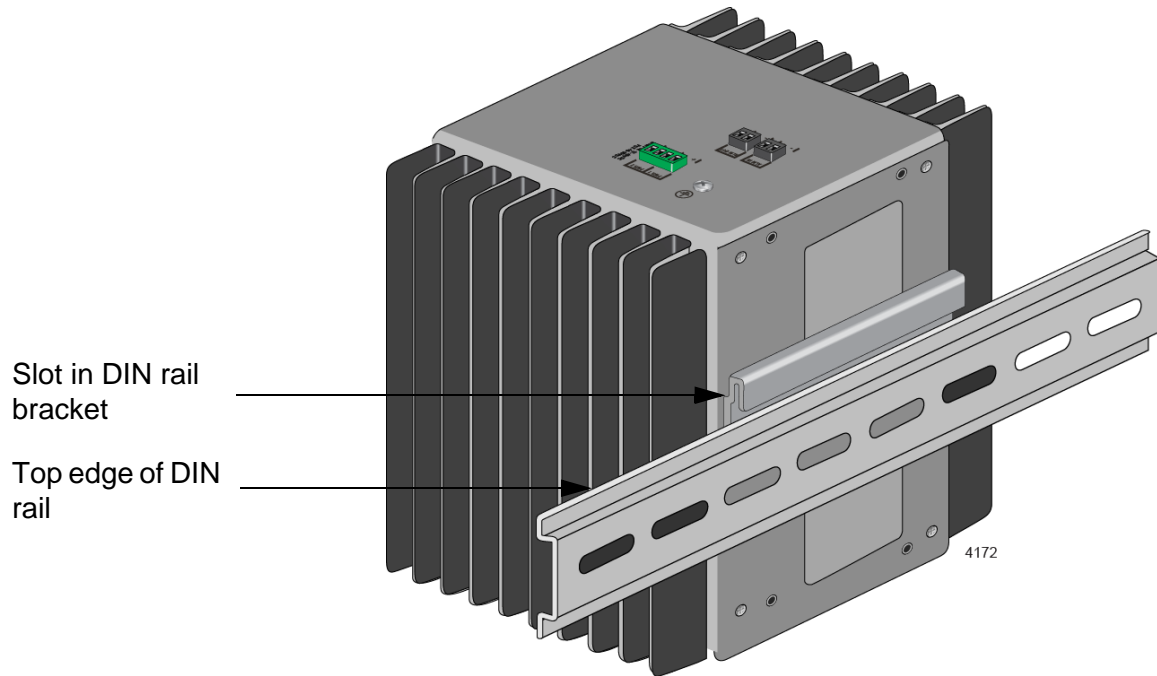

Figure 16. Installing the Switch on a DIN Rail - 1
1. Slide the slot on the top of the DIN rail bracket onto the top edge of the DIN rail. Refer to Figure 16 on page 65.